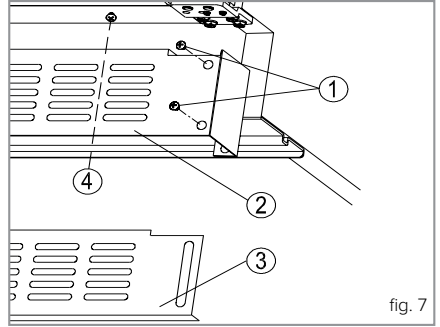

fig. 7
1. Remove the rear ventilation trim (3) by removing screws (1) from both sides and sliding the trim out from below. Then remove the front ventilation trim (2) by removing screws (4) from each side as shown in fig. 7. These screws (4) are located above and behind the front ventilation trim (2) and their location is indicated by the dotted line in fig. 7.